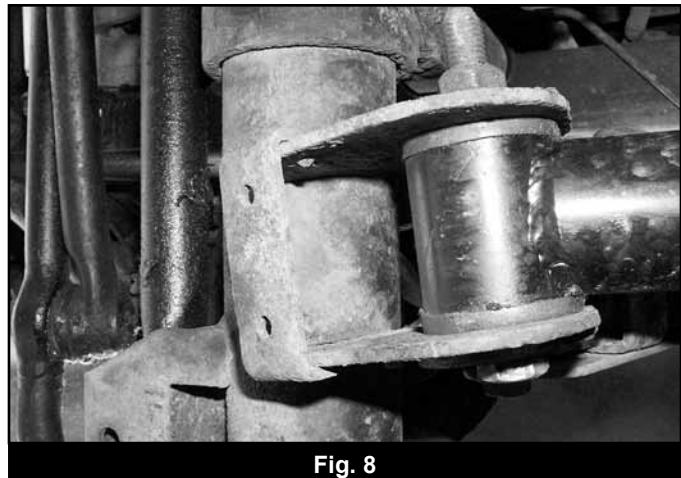

Fig. 8
24. ♦ Install new long arm with 'pitched' end located in axle pocket, grease zerks facing down. Follow appropriate step depending on model year: (Fig. 8)